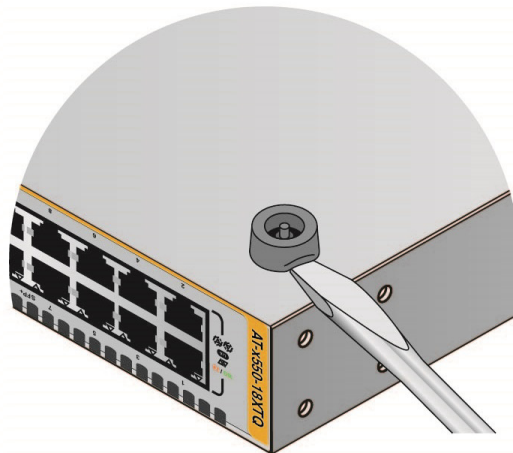

Figure 59. Removing the Plastic Feet from the Bottom Panel of the Switch
5. Use a small flat-head screwdriver to pry the four plastic feet from the bottom of the switch. Refer to Figure 59.